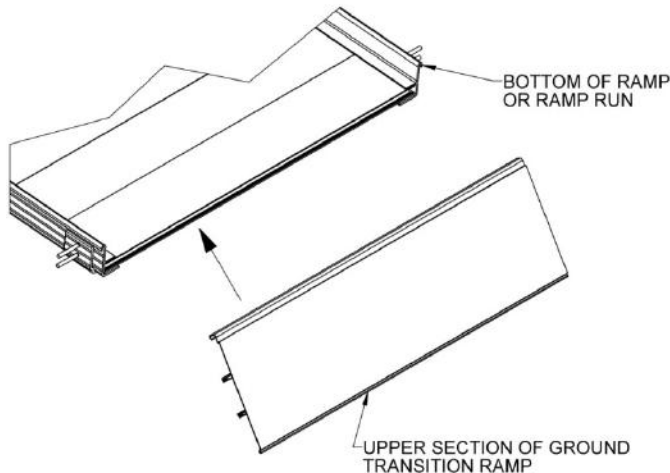
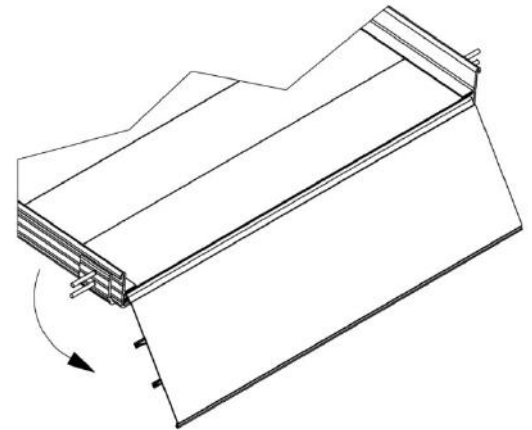

FIG. 3.10
FIG. 3.11
- 3.4.2. Lift the lowest end of the ramp/ramp run and bring the upper section PRGT into the ramp end tread until the “hook” is engaged (FIG. 3.10), then rotate into place (FIG. 3.11) and set back on the ground.